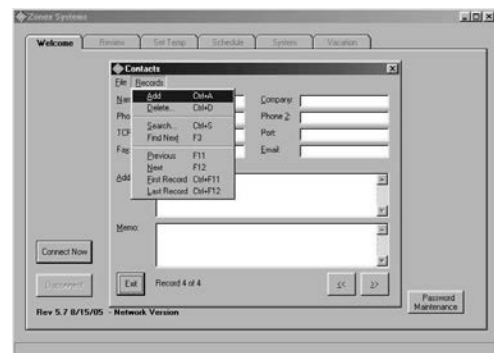

Fig. 5
- F. Click on **ADD** (see Fig. 5); and enter new project name, phone number for the dedicated phone line to this job or IP address and port number, if applicable. Multiple facilities may be accessed from this software.